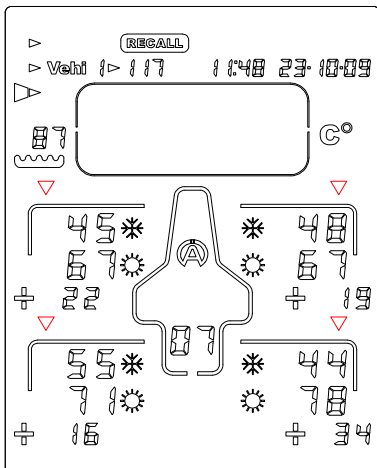

Figure 11
- 5) Press the button  or  : the Tyrecontrol displays the second phase of data, that is to say the outside temperatures of the tires, before  and after  race + the gaps (figure 11).